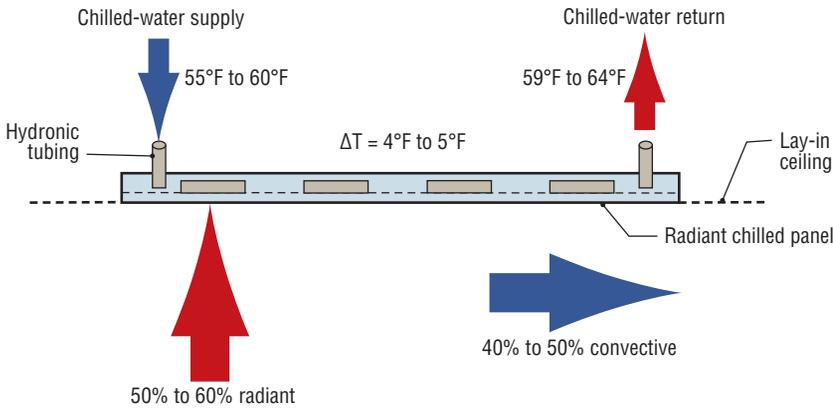

FIGURE 2. Chilled ceiling.
- *Increased radiant-cooling or chilled-ceiling capacity.* Chilled ceilings (Figure 2) have a fairly low cooling capacity of 20 to 30 Btuh per square foot. Passive chilled-beam systems, on the other hand, have a cooling capacity approaching 150 Btuh per square foot, while active chilled-beam systems have a cooling capacity approaching 400 Btuh per square foot.